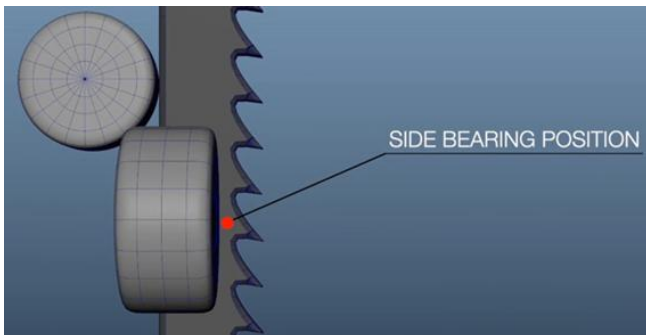

Fig. 51
2. Move the guide assembly forwards/ backwards to where side bearing is sitting just behind the blade teeth (about 1,59 mm) (Fig.51)